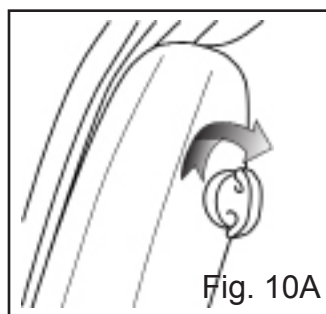
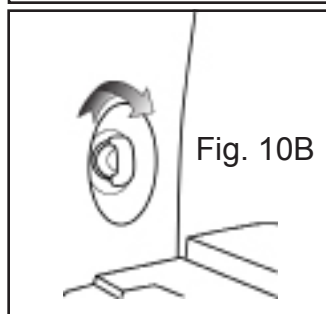
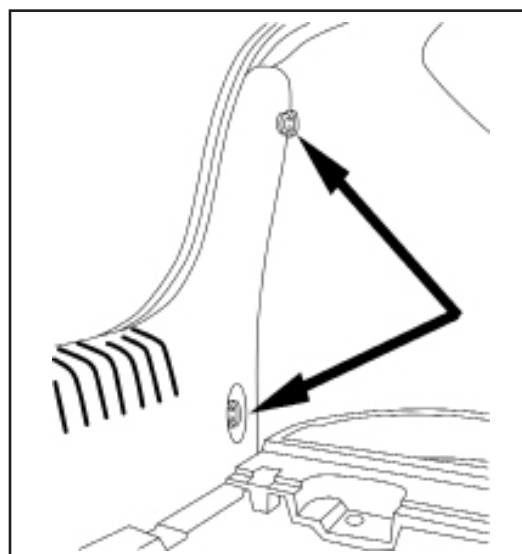

Fig. 10A
Fig. 10B
Fig. 10
16. Screw in the upper T-Anchor assemblies into the rubber wellnut until it is firmly seated to a vertical position. (Fig. 10) Do not tighten excessively. (Fig. 10A)
17. Screw in the lower T-Anchor assemblies into the rubber wellnut until it is firmly seated to a vertical position. (Fig. 10) Do not tighten excessively. (Fig. 10B)